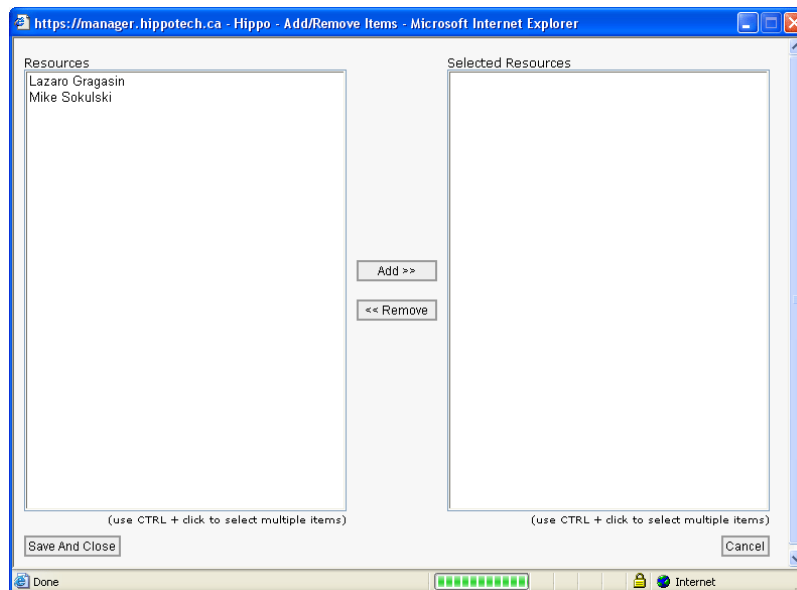

Figure 62: Adding Resources
- i. The resource are the ones doing the work for this PM (See **Set Facility Permissions** under **Add User** to add a worker as a resource) (See Figure 62)